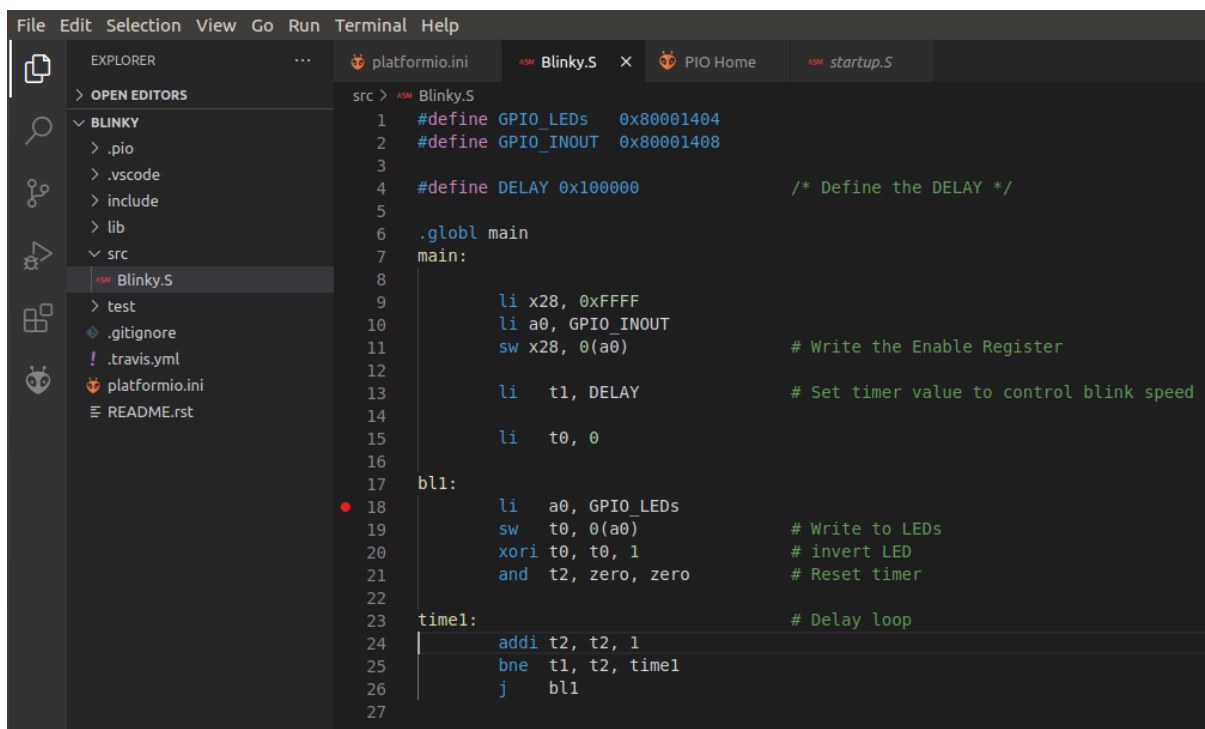

Figure 52. Setting a breakpoint in blinky.S
8. Establish a breakpoint by clicking to the left of line number 18. A red dot will appear and the breakpoint will be added to the BREAKPOINTS tab (see Figure 52).